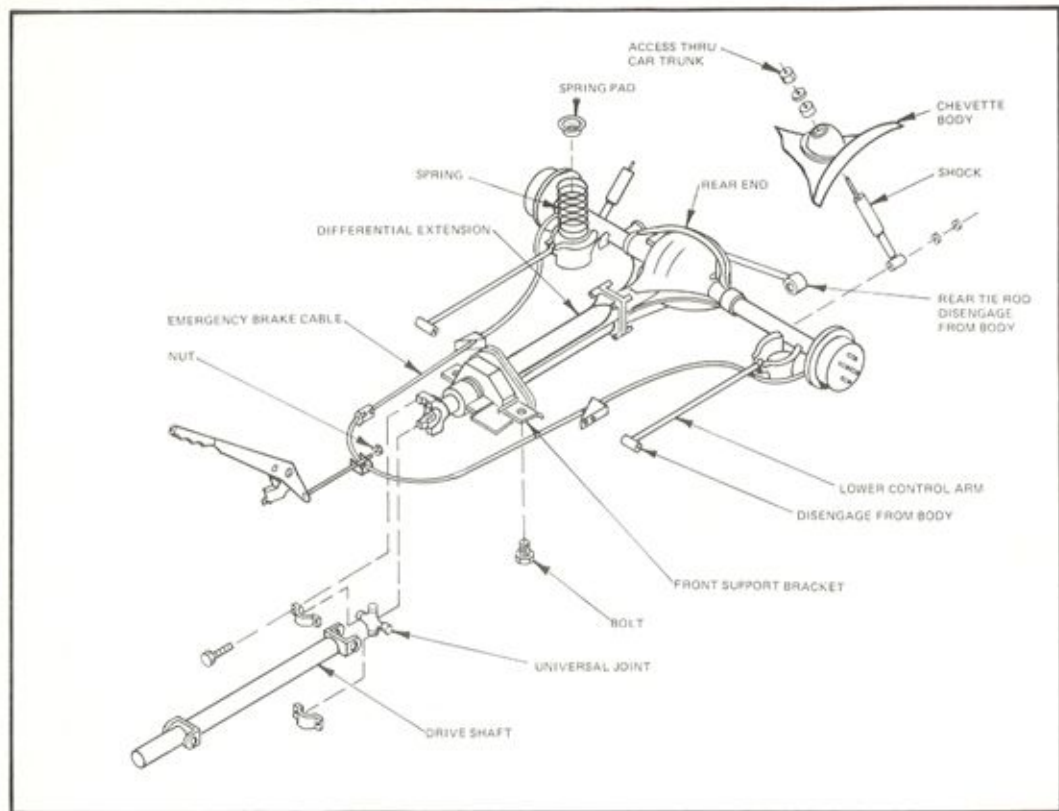

Figure 3
- Place floor jack under differential and apply pressure. Disconnect brake fitting where flexible hose attaches to body. Chisel off bracket for use on the MG-TD Replica. Disconnect drive shaft at universal joint. (Figure 3) Remove emergency cable spring and unfasten the nut holding cable to handle.
- Unbolt tops of shocks from trunk area of car (Figure 3) and from axle and remove. Lower differential to ground. Save all spring mounting pads.